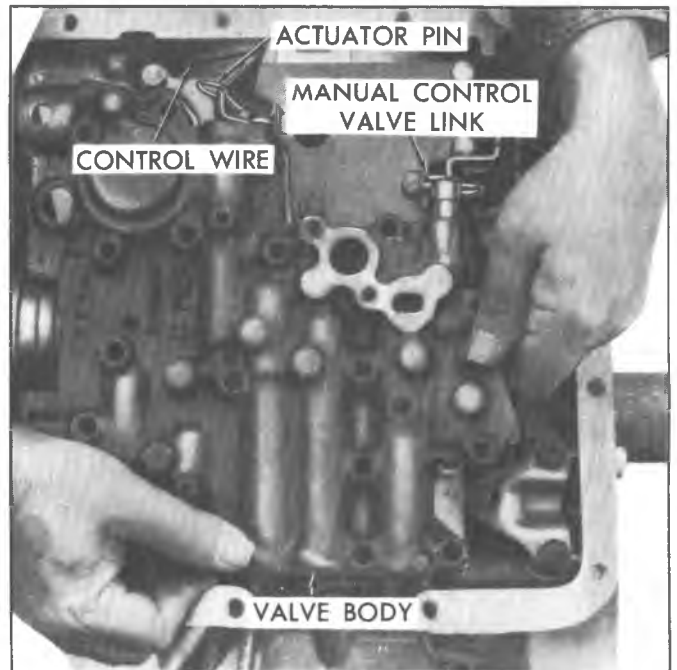

Fig. 12N--Removing Manual Control Valve Link, Valve Body and Detent Actuating Lever
2. Remove actuator pin from detent actuator valve lever and remove control wire (fig. 12N).
3. Remove manual control valve link from range selector inner lever and remove valve body (fig. 12N). Refer to page 7A-15 for valve body disassembly, inspection and assembly.